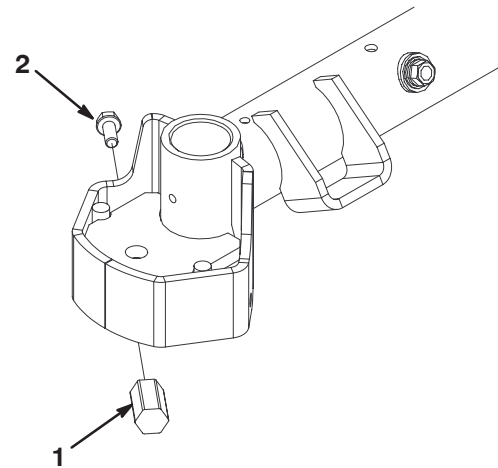

Figure 19
2. Mount hex spacer to lift arm steering plate with a 5/16 bolt w/lock patch, positioning as shown in figure 19.